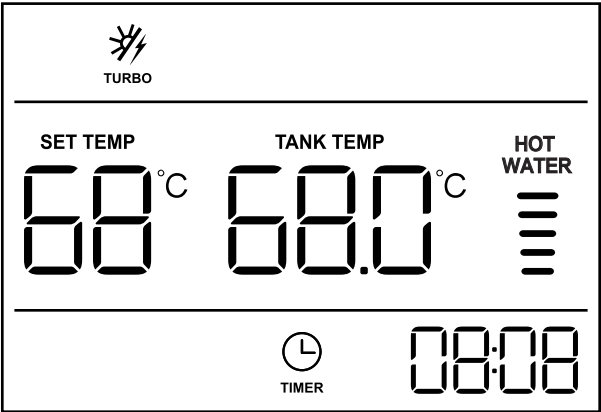

Figure 6.4-7 Main Interface With Timer
- After finishing all these steps, the display will show up like Figure 6.4-7. And the timer icon will be displayed all the time.